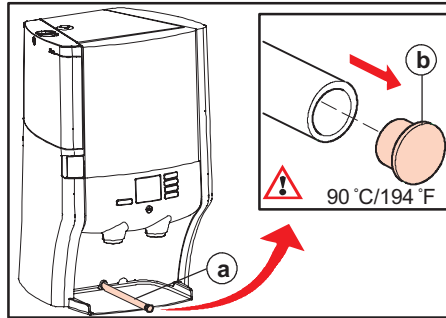
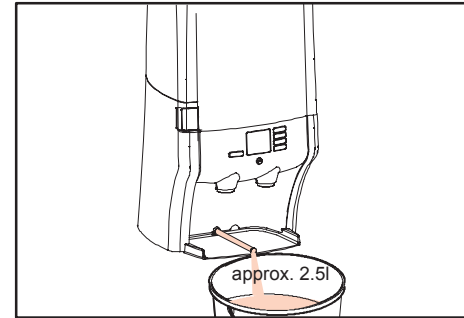

Fig. 22 Drain hose
Fig. 23 Draining
5. Using the drain hose, drain all the water from the dispenser (fig. 22 a):
- b. Pull the drain hose approx. 12 in. (30 cm) out of the rear wall (fig. 22 a).
- d. Place a container with a capacity of at least 2.5 liter under the drain hose (fig. 23).
- e. Remove the cap (fig. 22 b) from the drain hose and allow the water to flow into the container (fig. 23).